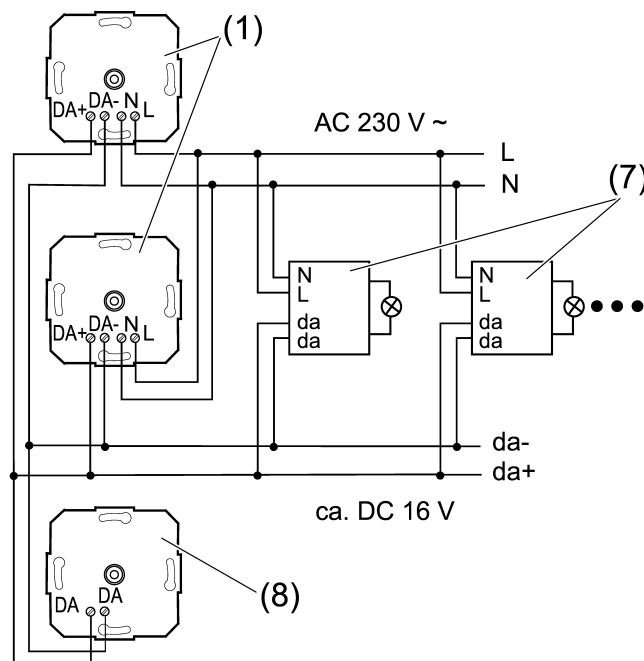
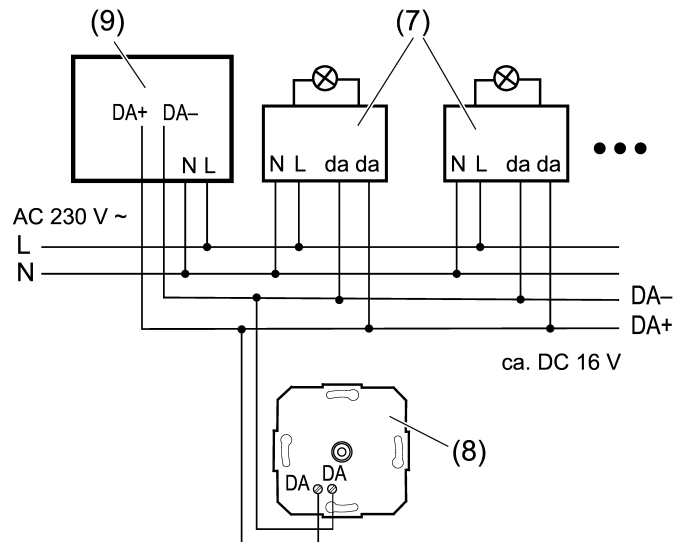

Figure 3: Broadcast mode connection example
Figure 4: Connection diagram, operation as input device
- Connect DALI flush-mounted rotary dimming insert with integrated power supply unit, DALI flush-mounted rotary dimming insert and DALI electronic ballast according to the connection examples (see figure 3) and (see figure 4). In so doing, observe the data of the electrical ballast manufacturer.
- i** A combination of DALI flush-mounted rotary dimming insert with integrated power supply unit and an external power supply is not permitted. If an external power supply is used, e.g. via a central control unit, the power supply must not be connected to the rotary control device (see figure 4).